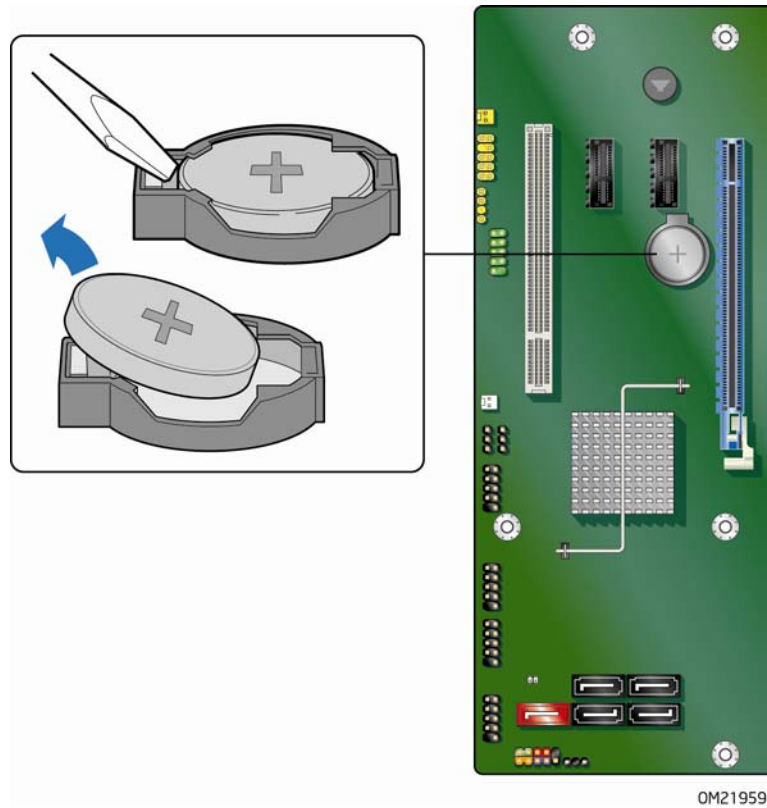

Figure 29. Removing the Battery
When the voltage drops below a certain level, the BIOS Setup program settings stored in CMOS RAM (for example, the date and time) might not be accurate. Replace the battery with an equivalent one. Figure 29 on page 67 shows the location of the battery.
4. Locate the battery on the board (see Figure 29).